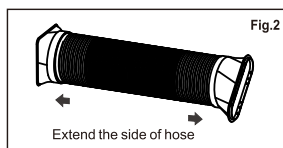
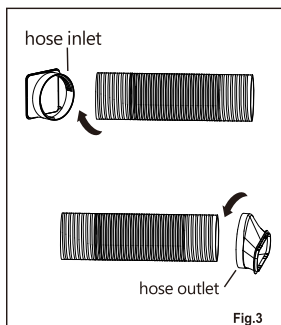

Fig.2
Fig.3
- if you found that the connector is loose or dropped, it can be fixed and connected according to (fig. 2) and (fig. 3) .
- 1 .Extend either side of the hose (Fig.2), and screw the hose inlet (Fig.3).
- 2 .Extend the other side of the hose and screw it to the hose outlet (Fig.3).